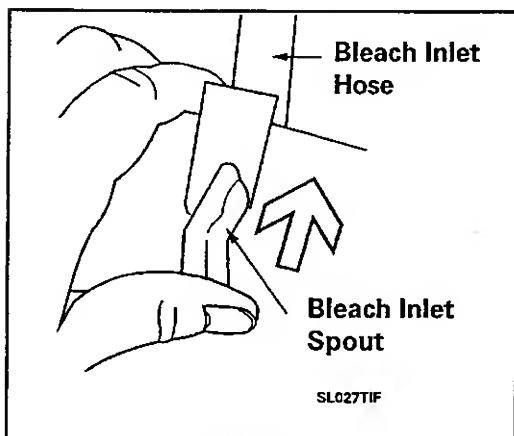

Figure 5-8
9. Tilt the plastic shroud forward and remove the fabric softener and bleach dispenser inlet hoses by sliding the spouts up (*Figure 5-8*).
NOTE: *When the cord is released, the lock will go back into a locked position (Figure 5-8).*